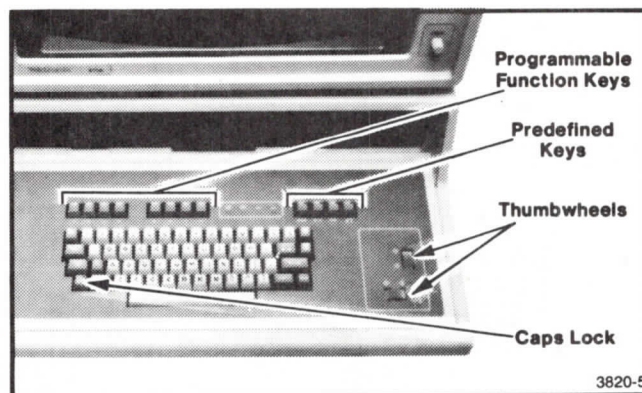

Figure 3-2. Keyboard with Function Keys and Thumbwheels.
(Refer to Figure 3-2.)
- o Setup commands in the examples are shown in UPPER CASE. However, any English-like setup command can be entered in either upper or lower case. (An "escape sequence" entered in Setup mode must be all upper case, see Table 3-5). If you want to enter all upper case characters as shown, press the CAPS LOCK key (Figure 3-2).
3. Press the LOCAL key (Figure 3-2).	The red light in the key turns on and the terminal enters Local mode.
4. Press the following keys: (ESC)(8)	This command sets text size of the terminal. If the text was already set to this size, there is no change. The size of the cursor changes to reflect the new text size.
6. Press the key labeled SET UP (Figure 3-2).	The red light in the key turns on.
9. Press the PAGE key. (Figure 3-2)	The screen is erased.